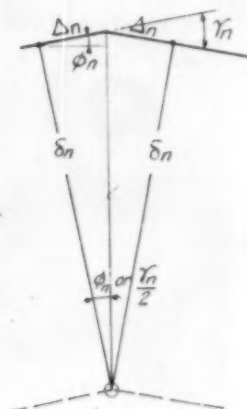

Fig. 9.
If the cross section of the roof is divided into an even number of slabs with uniform loads, then by symmetry the deflection of the ridge (*Fig. 9*) $\delta_n^n = \Delta_n \cot \phi_n$, and at the lower end of the slab $\delta_n^{n-1} = \frac{\Delta_{n-1} - \Delta_n \cos \gamma_{n-1}}{\sin \gamma_{n-1}}$. The expression in square brackets in (12) becomes